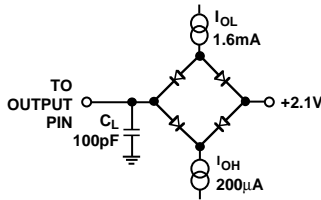

Figure 1. Load Circuit for Access Time and Bus Relinquish Time
- 2See Figures 1 to 6.
- 7 $t_4$  and  $t_{13}$  are measured with the load circuit of Figure 1 and defined as the time required for an output to cross 0.8 V or 2.4 V.
- 8 $t_9$ ,  $t_{10}$ ,  $t_{15}$  and  $t_{16}$  are derived from the measured time taken by the data outputs to change 0.5 V when loaded with the circuit of Figure 1. The measured number is then extrapolated back to remove the effects of charging or discharging the 100 pF capacitor. This means that the time quoted in the Timing Characteristics is the true bus relinquish time of the part and as such as independent of external bus loading capacitance.